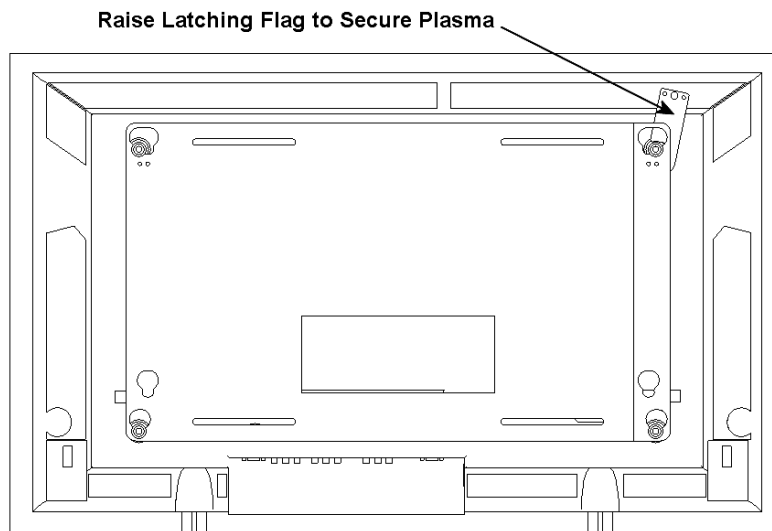

Figure 5
5. With the aid of another person, lift the display up to the mount, align the mounting buttons on the display with the teardrop slots in the mount, and set the display into place (see Figure 5).
6. Position (raise) the flag to secure the display (see Figure 5).